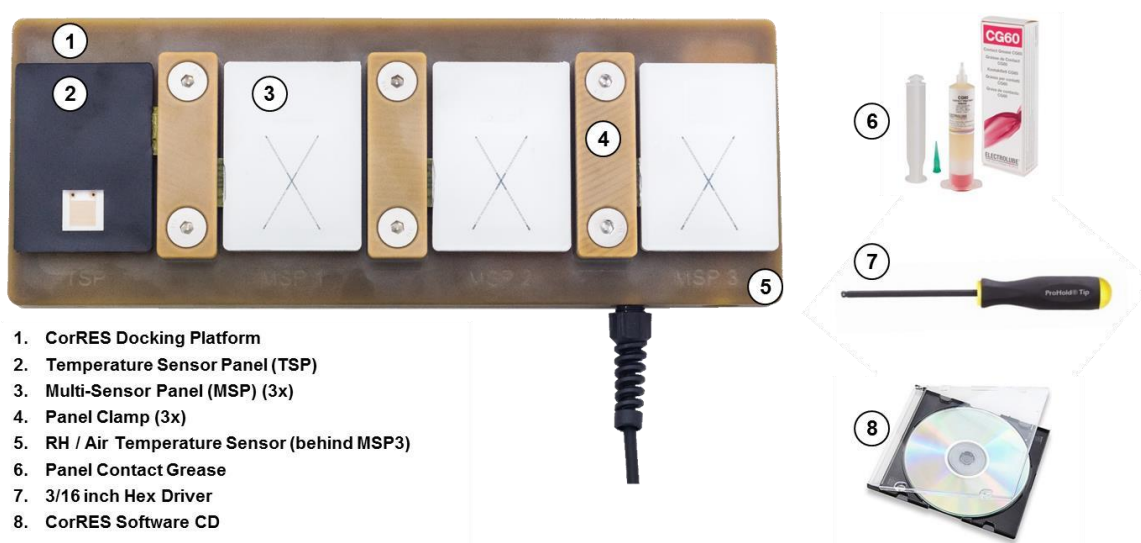

Figure 1. Standard CorRES Hardware. TSP and MSPs are sold separately from the Docking Platform.
The standard CorRES system setup involves a single docking platform (DP) continuously connected to a computer. The docking platform saves data internally and periodically transmits the logged data to connected computer according to user-selectable software preferences (See Section 5). The basic system hardware (Figure 1) is intended for indoor test applications, where the connected computer provides power to the docking platform through the USB port. An optional battery back enables long-term standalone operation where it is impractical to maintain a continuous computer connection, such as during outdoor exposure testing (Figure 2).